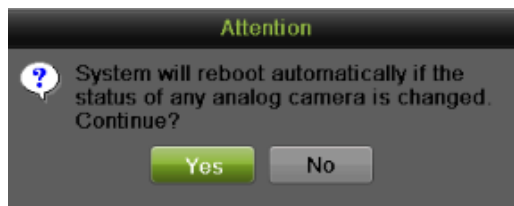

Figure 96 Enable/Disable Analog Camera Attention Message
4. Select the Apply button to save the camera settings. There will pop up an Attention message box, as shown in Figure 96.